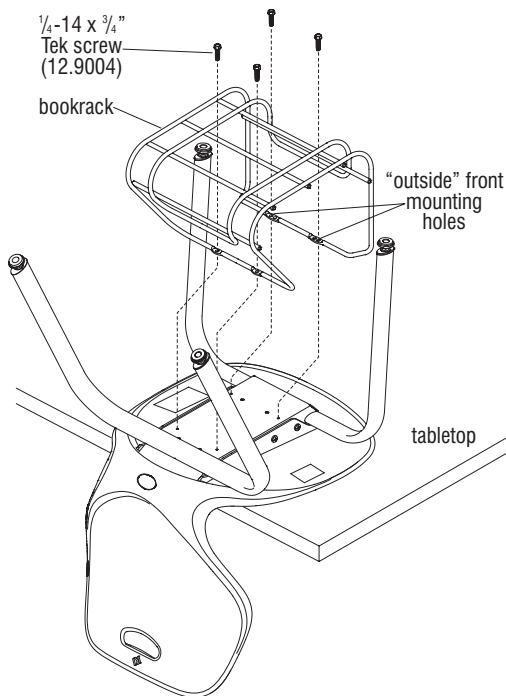
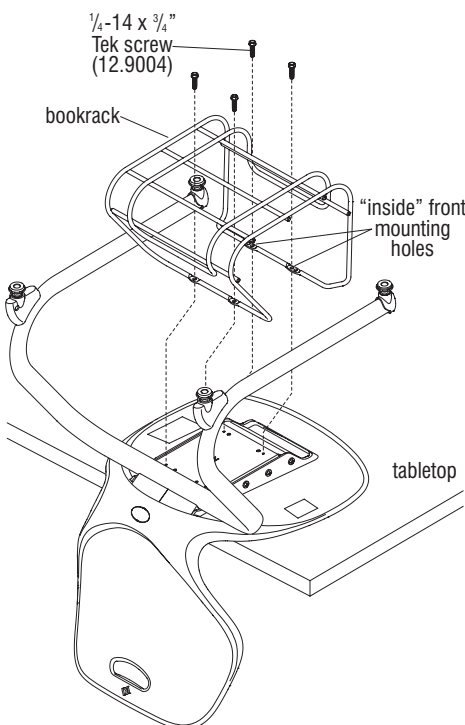

Figure 1 - Intellect Wave 4-Leg Chair
Figure 2 - Intellect Wave Cantilever Chair
Note: The instructions below cover both the 4-Leg chair (Figure 1) and the Cantilever chair (Figure 2). The mounting holes at the front of the bookrack are different for each chair. The front, "outside" two holes are used for the 4-Leg chair and the front, "inside" two holes are to be used for the Cantilever chair.
1. Carefully turn the chair upside down on a soft protective surface (or table top as shown) (Figure 1 & 2).
2. Orient the bookrack over the underside of the chair with the two sets of two mounting holes toward the front of the chair. Set the bookrack down and align mounting holes to the pre-drilled chair frame holes (Figures 1 & 2).